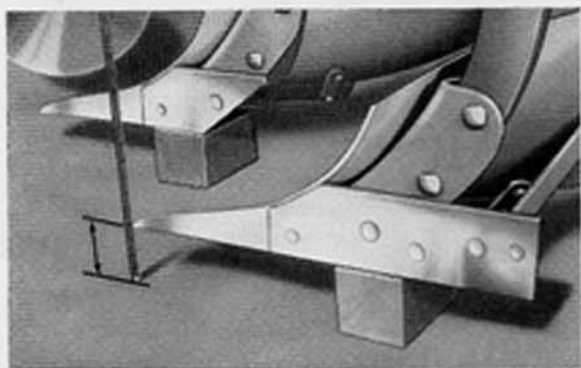
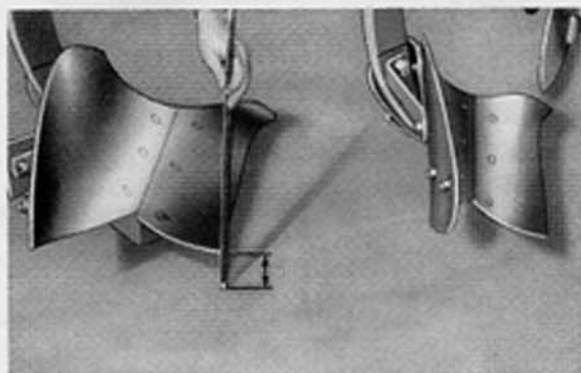
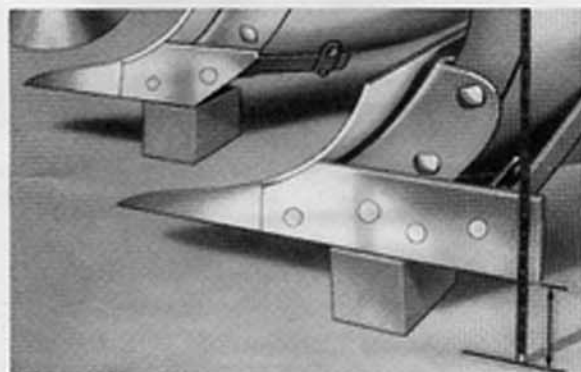

Fig. 15A
Fig. 15B
Fig. 15C
5. The accompanying chart shows the method of measuring the position of the share point, Fig. 15a, share wing, Fig. 15b and landside heel, Fig. 15c, by using the above dimension "A." These measurements are the same on both front and rear bottoms except for the landside dimension. It is not necessary to check the landside on the front bottom.
6. Distance from flat surface to point of share, Fig. 15a, must be from "A" minus  $\frac{3}{16}$ " to "A" plus  $\frac{3}{16}$ ".
7. Distance from flat surface to wing of share, Fig. 15b, must be from "A" minus  $1\frac{9}{16}$ " to "A" minus  $\frac{1}{4}$ ".
8. Distance from flat surface to landside of base, Fig. 15c, must be from "A" plus  $\frac{7}{8}$ " to "A" plus  $1\frac{1}{8}$ ".